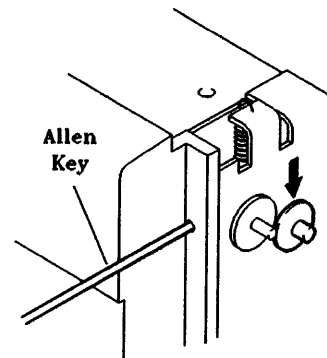

Fig 6-2. Retainer Plate & Nylon Ferrule
- 1) Loosen all nine screws securing the door lock bracket assembly (16), but do not remove.
- 2) Loosen the three screws securing the right hand panel (28), but do not remove.
- 3) Loosen the two screws holding the top of the front panel assembly (13) to the door lock bracket, and the two screws holding the front panel assembly to the side panel.
- 8) Push back the retainer plate by pushing the nylon ferrule downwards, and hold the plate in position using a 1.5 mm Allen key. This should be inserted from the front of the mechanism, as shown in Figure 6-2.